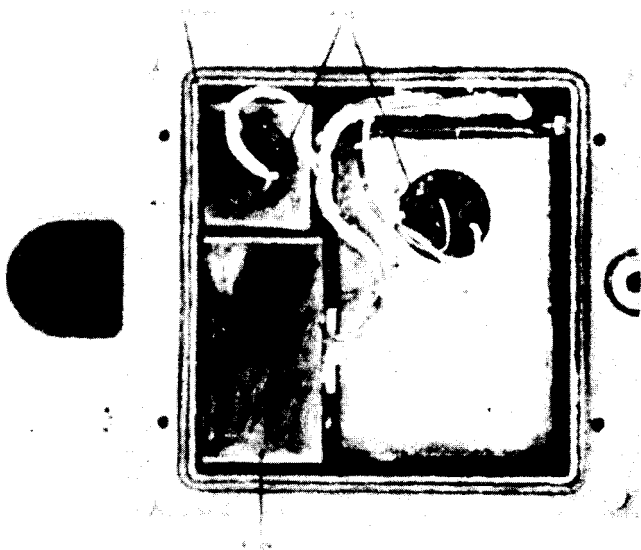

Figure 3-2. Radiacmeter, Battery Compartment Details
- Step 4. Place the batteries in the battery compartment as shown on diagram inside battery compartment and in figure 3-2.